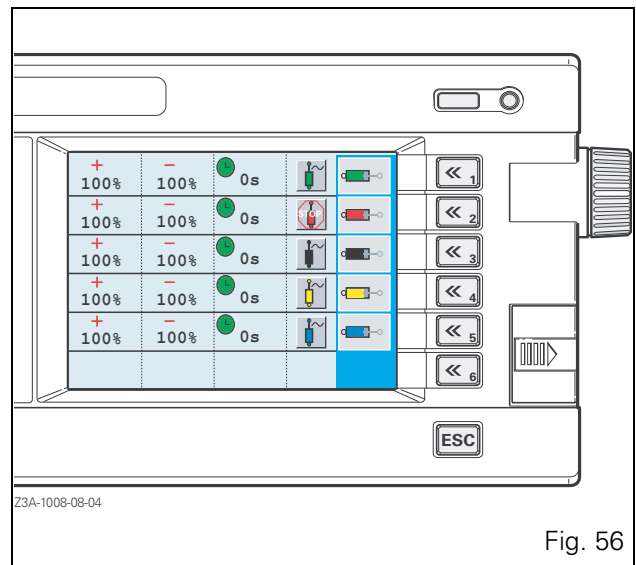

Fig. 56
**NOTE:** If the tractor is fitted with the Datatronic 3, ensure that the "Floating" function is available for each spool valve (Fig. 56). To activate this function, see chapter 7, section 7.8.